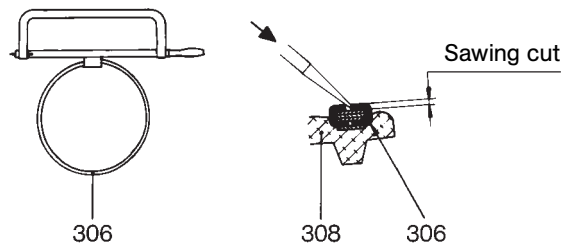

Figure 2: Removal of the clamping band.
- Withdraw suction casing (505) over the rotor (401). In doing so, see to it that the precision-machined rotor is not damaged.
- Remove gasket for suction casing (501).
- Cut buckle on clamping band (306) with a metal saw, and with a screw driver, press out to both sides. Remove clamping band (306) from the cover sleeve (308) (please refer to Figure 2 below).
- Remove rotor (401) from the coupling rod (307).
- By means of a brass mandrel, completely drive bush for coupling rod pin (303) out of the rotor (401).